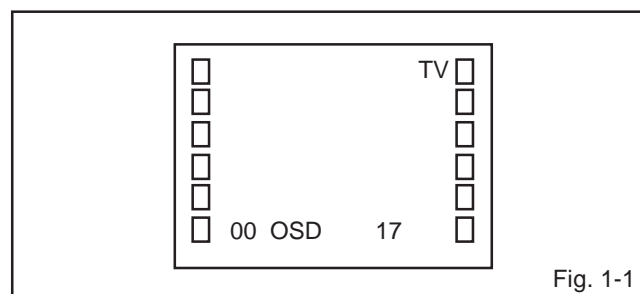

Fig. 1-1
1. In the condition of NO indication on the screen. Press the VOL. DOWN button on the set and the Channel button (**9**) on the remote control for more than 2 seconds to appear the adjustment mode on the screen as shown in **Fig. 1-1**.
4. Activate the adjustment mode display of **Fig. 1-1** and press the channel button (**01**) on the remote control to select "CUT OFF".
4. Activate the adjustment mode display of **Fig. 1-1** and press the channel button (**10**) on the remote control to select "R.BIAS".